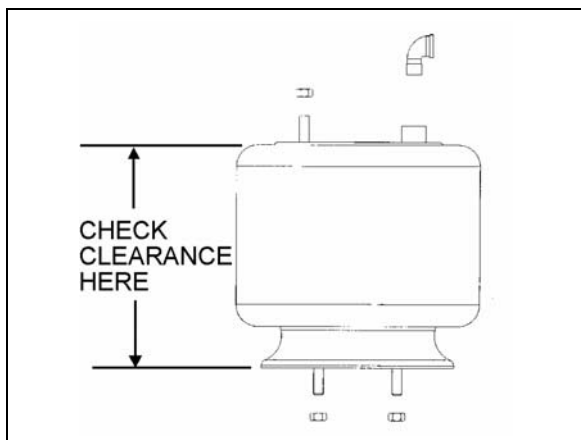

FIGURE 41: TYPICAL AIR SPRING CLEARANCE 16058
The appropriate vehicle body height is obtained by measuring the clearance of all the air springs installed on the vehicle. The two front air springs clearance should be  $11 \pm \frac{1}{4}$ " (279  $\pm$  6 mm). Refer to figure 41 to identify the correct area to take measurement. The rear air springs clearance should be  $11 \frac{1}{2} \pm \frac{1}{4}$ " (292  $\pm$  6 mm) (refer to paragraph "8.0 Suspension Height Adjustment" for rear height control valves' adjustment). At this point, it should not be necessary to make an adjustment under normal service conditions. However, if an adjustment is required, change the position of the overtravel lever in relation to the overtravel control body. The lever should be moved up to raise vehicle height, and down to lower it. Check that main air pressure is at normal operating pressure and raise the vehicle to the specified height.
**Note:** The measurement should be taken from underneath the upper air spring support on subframe to top of the lower air spring support on axle (refer to figure 41 for more details). If adjustment is required, begin with the drive axle.
The appropriate vehicle body height is obtained by measuring the clearance of all the air springs installed on the front and drive axles. The clearance should be  $12 \pm \frac{1}{4}$ " ( $305 \pm 6$  mm) for the air springs installed on the front I-beam axle and  $11\frac{1}{2} \pm \frac{1}{4}$ " ( $292 \pm 6$  mm) for those installed on the drive axle. Refer to figure 41 to identify the correct location where the measure has to be taken. At this point, it should not be necessary to make an adjustment under normal service conditions. However, if an adjustment is required, change the position of the overtravel lever in relation to the overtravel control body. The lever should be moved up to raise the height of vehicle and down to lower it. Check that main air pressure is at normal operating pressure and raise the vehicle to the specified height.
**Note:** The measure should be taken from under the upper air spring support on subframe to top of the lower air spring support on axle (refer to figure 41 for more details). If adjustment is required, begin with the drive axle.